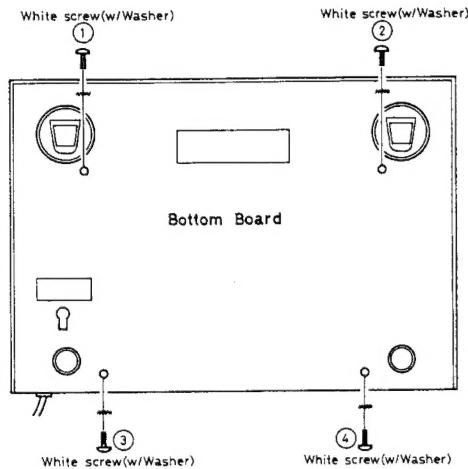

Fig. 6
1. Turn the set upside down and remove 4 setscrews (①~④ in Fig. 6) on the bottom board.